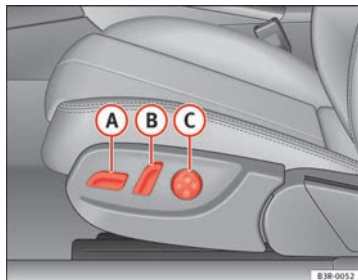
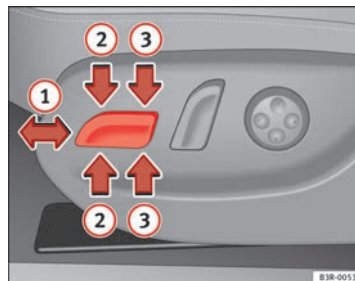

Fig. 106 Front seat: Adjuster controls
Fig. 107 Front seat: Seat adjustment switches
- Press switch **A** ⇒ fig. 106 forwards or backwards **1** ⇒ fig. 107 ⇒